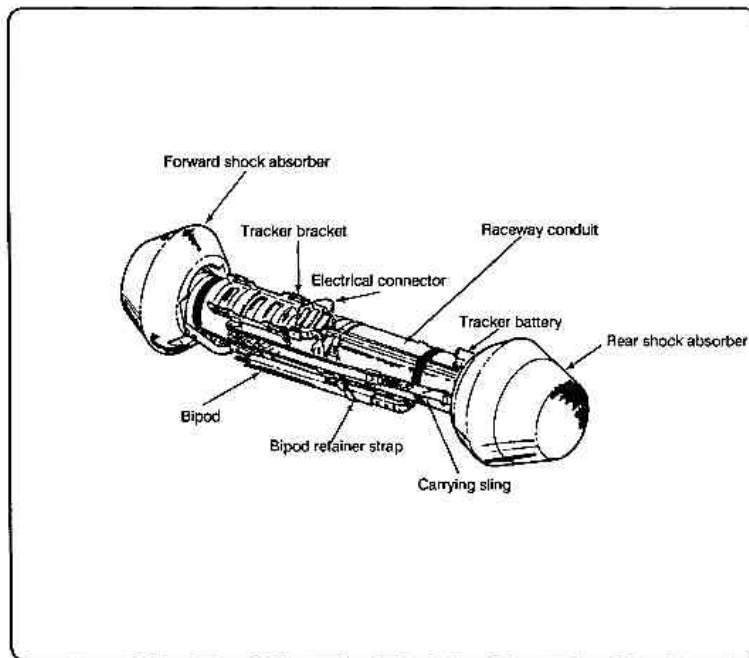

Figure 1-9. M222/MK 1, MOD 0, tactical round external components.
c. **Ammunition.** The Dragon ammunition is an expendable component (Figure 1-9), consisting of the missile and launcher. The missile is installed in the launcher at the factory and shipped in a ready-to-fire configuration. The launcher serves as a storage and carrying case for the missile before launch.